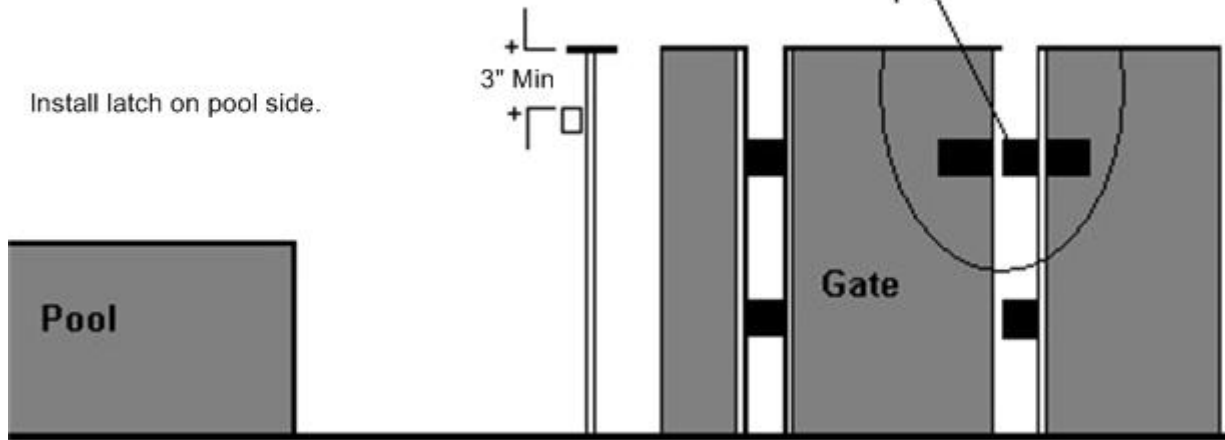

Figure 6
- e. Access gates shall comply with the requirements of subdivisions a through (d) above. Pedestrian access gates shall be self-closing and have a self-latching device. Where the release mechanism of the latching device is located less than 54 inches from grade, (i) the release mechanism shall be located on the pool side of the gate at least 3 inches below the top of the gate, and (ii) the gate barrier shall have no opening greater than ½ inch within 18 inches of the release mechanism. (See Figure 6) Pedestrian gates (in fences isolating the pool from the dwelling) shall swing away from the pool. Any gates other than pedestrian access gates shall be equipped with lockable hardware or padlocks and shall remain locked at all times when the pool is not in use.